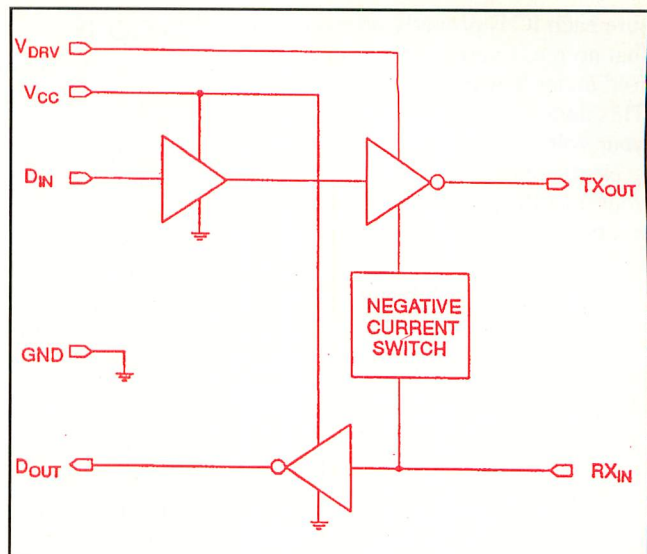

Fig. 5. Block diagram of the DS-1275 line-powered RS-232 transceiver.
• **DS1275 Line-Powered RS-232 Transceiver** (Fig. 5). The 9,600-bps asynchronous interface is implemented with Dallas Semiconductor DS1275 line-powered RS-232 transceiver *U5*. This CMOS device translates RS-232 signal levels to CMOS/TTL levels. To